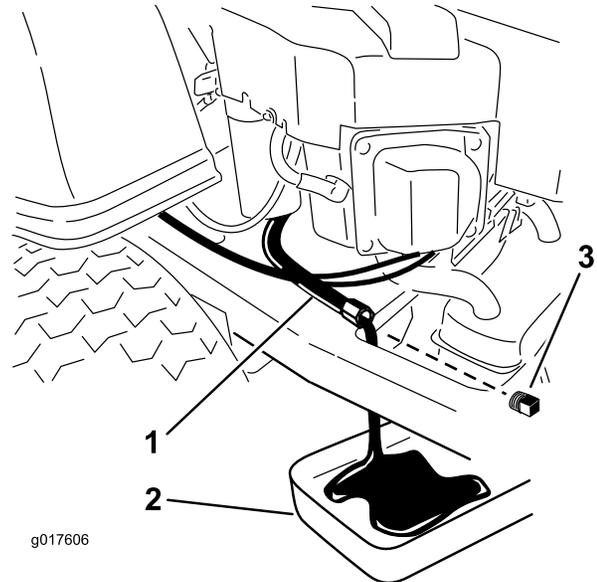

Figure 29
4. Locate the oil drain hose on the left side of the engine. The drain plug is attached to the drain hose (Figure 29). Clean the area around the oil drain plug and the oil drain hose.
5. Place a pan underneath machine directly below the oil drain hose as shown in Figure 29.
6. Using two wrenches (one to hold the oil drain hose and one to loosen the plug), remove the oil drain plug (Figure 29).
12. When oil has drained completely, install the oil drain plug. Tighten the plug to 125 in-lb (14 N-m) torque. Wipe up any excess oil (Figure 29).